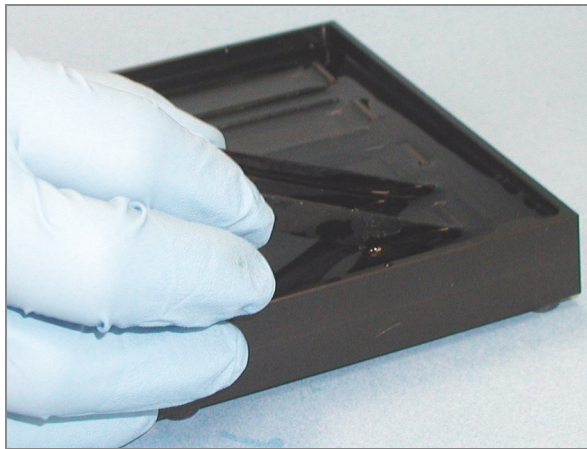

Figure 54 Placing Black Frames into Multi-Sample BeadChip Alignment Fixture
2. For each BeadChip to be processed, place a black frame into the Multi-Sample BeadChip Alignment Fixture (Figure 54).